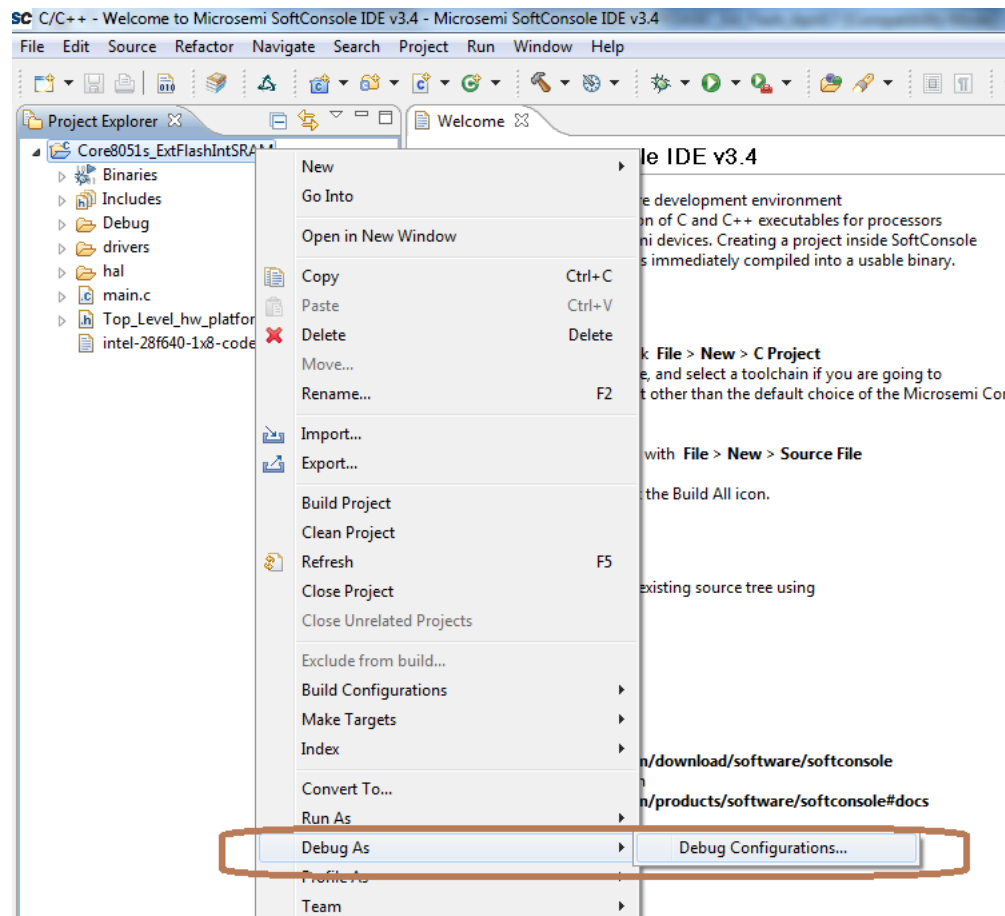

Figure 18 • Debug Configurations
8. Right-click **Core8051s_ExtFlashIntSRAM** on the left pane and click **Debug As > Debug Configurations...**, as shown in Figure 18. The **Debug Configurations** window is displayed.